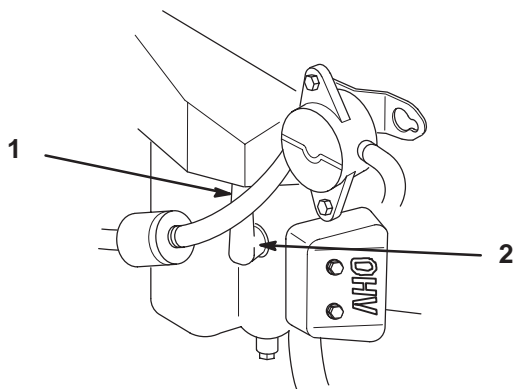

Figure 22
2. Pull the wire(s) off of the spark plug(s) (Fig. 22). Clean around the spark plug(s) to prevent dirt from falling into the engine and potentially causing damage.
3. Push the wire(s) onto the spark plug(s) (Fig. 22).